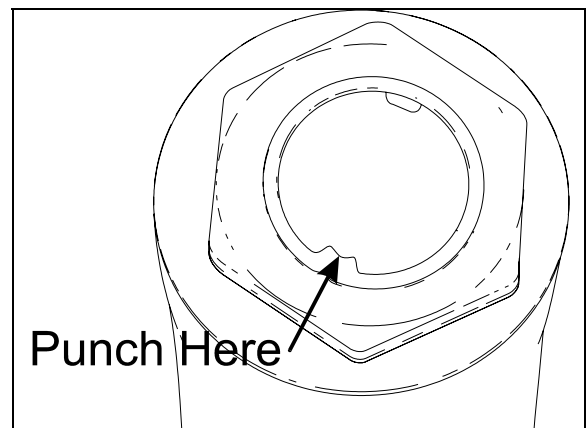

FIGURE 22: FIXING NUT PUNCH MARK 16098
**Caution:** Lock nut with sector shaft using a punch mark into the groove (Refer to figure 22).